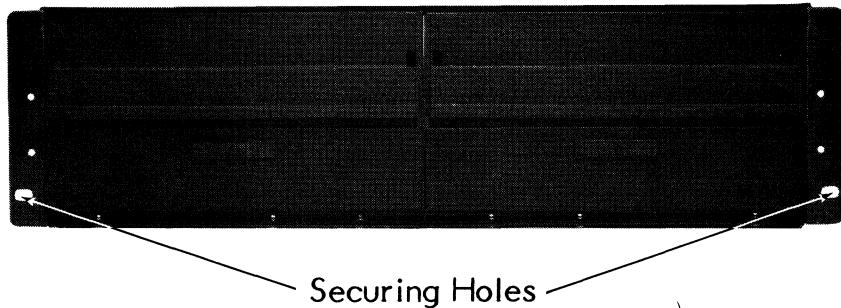

Figure 2-4. Front View of Chassis with Front Panel Removed to Show Securing Holes
- 4) Secure the chassis in the rack by bolting the front flange to the front rails of the rack as shown in Figure 2-4.